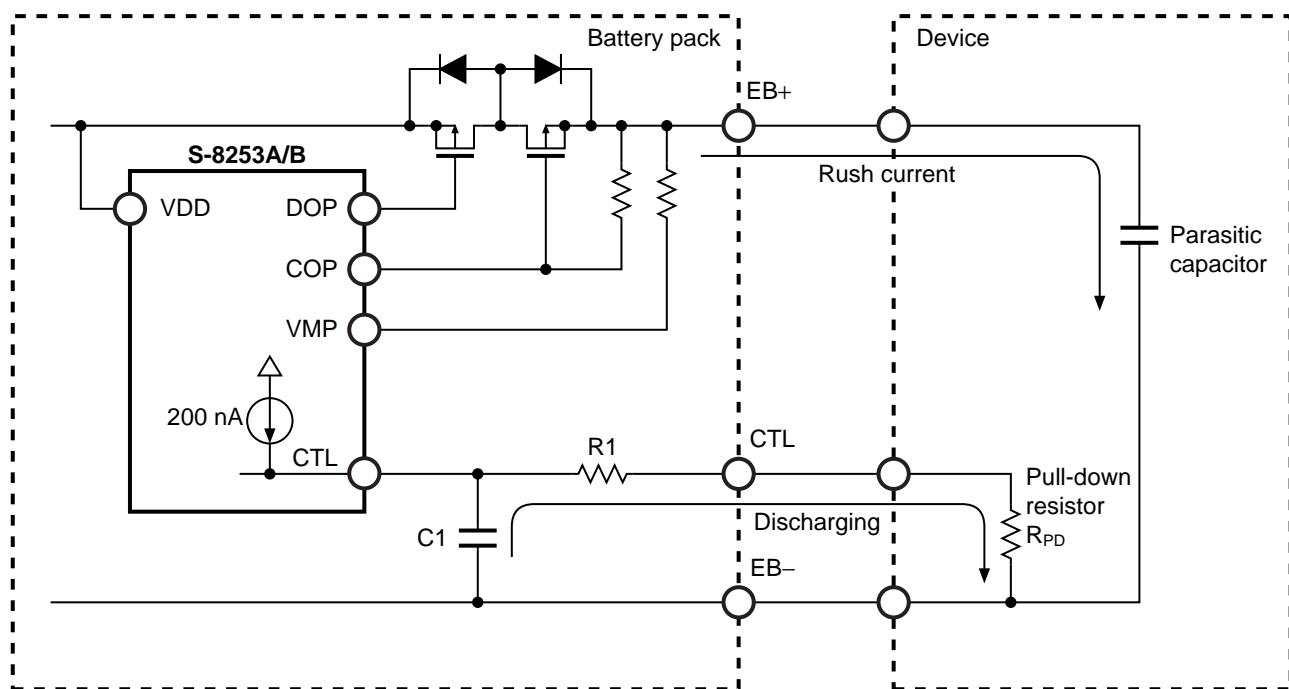

Figure 15
- In case of designing a circuit by using the CTL pin, as seen in **Figure 15**, note that discharging may stop during connecting a battery pack and the device.
As seen in **Figure 15**, before a battery pack is connected to the device, the battery pack may be in the charge / discharge inhibited status in which the CTL pin is internally pulled-up. From this status, if connecting the battery pack to the device, the CTL pin will be pulled-down in a time-constant $C1 \times (R1 + R_{PD})$ by a pull-down resistor in the device. If the CTL's potential reaches $V_{CTLL} < V_{CTL} < V_{CTLH}$, the battery pack goes in the delay time-shortening status so that it releases charging and discharging, hence it starts charging a parasitic capacitor in the device. In this case, if the rush current, which makes the S-8253A/B Series to detect the overcurrent detection voltage 3 (V_{IOV3}), flows into the device, the overcurrent detection delay time 3 ($t_{IOV3} = 300 \mu s$ typ.) will be shortened. So that the battery pack goes in the overcurrent status in several 10 μs . However, the battery pack goes in the normal status by connecting the device to the charger.